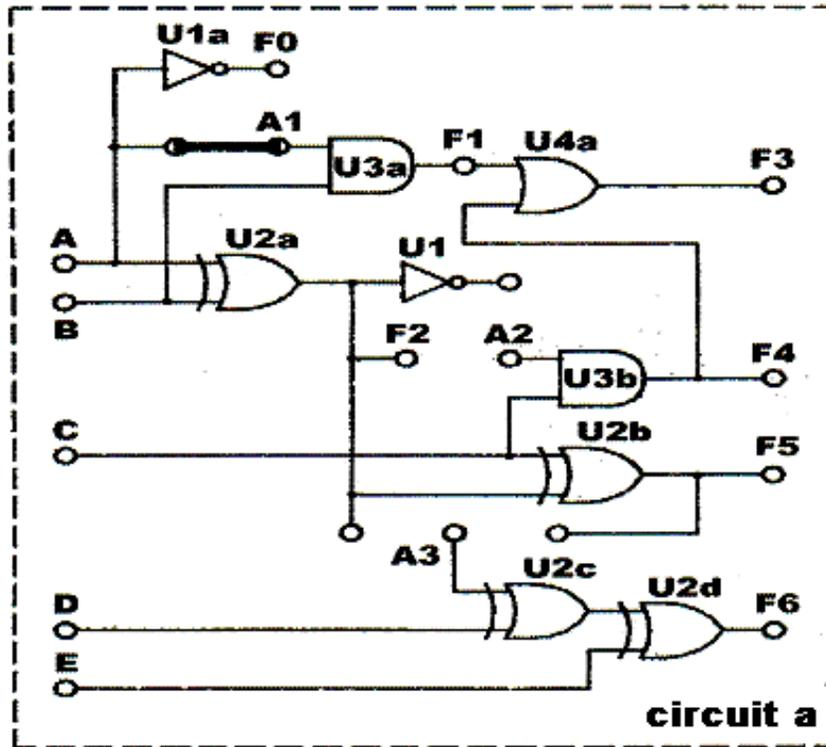
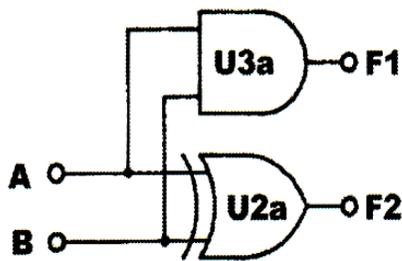

Fig. 2-41
Fig. 2-42
2. Insert connection clips according to Fig. 2-41, using U2a and U3a to assemble the half-adder circuit of Fig. 2-42. Connect Vcc to +5V.
3. Reassemble the circuit according to Fig. 2-42 (a) to construct the full-adder circuit shown in Fig. 2-42 (b).